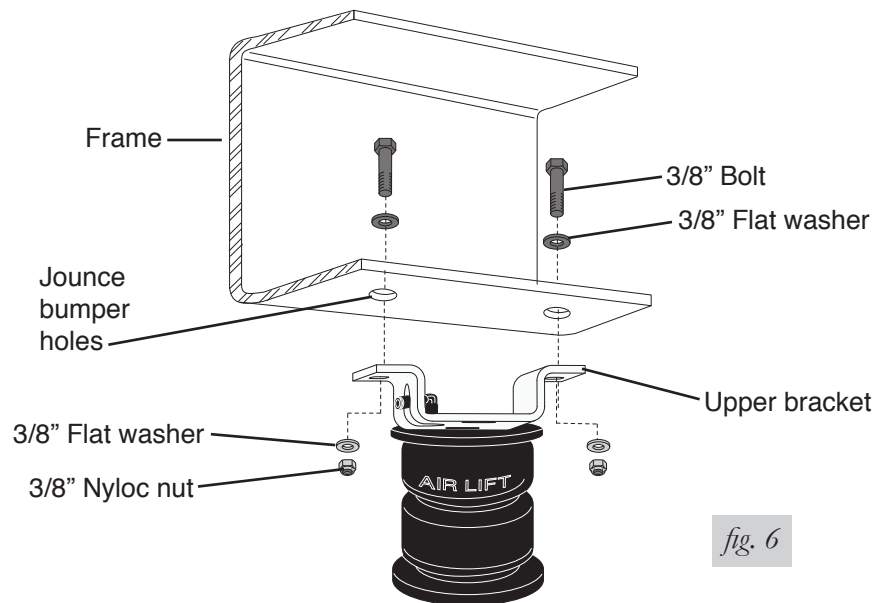

fig. 6
2. Insert two 3/8" bolts (H) and flat washers (J) through the existing jounce bumper holes and through the slotted holes in the upper bracket (Fig. 6).
3. Attach the upper bracket using two flat washers (J) and nyloc nuts (L) on each previously installed bolt (Fig. 6).